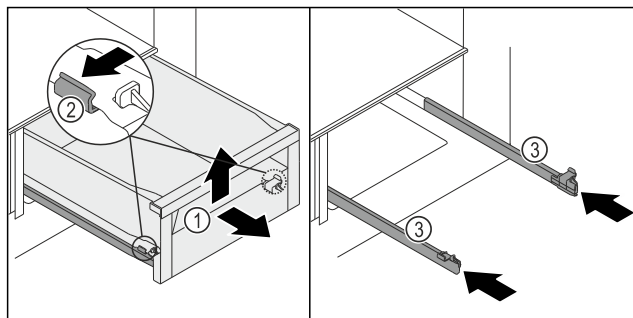

Fig. 129
- ▶ Pull the drawer Fig. 129 (1) out as far as it will go.
- ▶ Press the left and right clamps Fig. 129 (2) on the rails slightly outwards at the same time.
- ▶ Drawer Fig. 129 (1) detaches from the rails.
- ▶ Lift up the drawer Fig. 129 (1) forwards.
- ▶ Remove the drawer Fig. 129 (1) forwards.
- ▶ Push in the rails Fig. 129 (3).